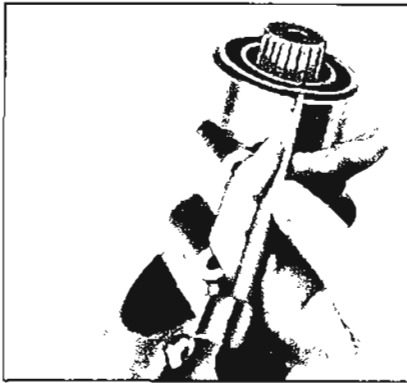

Figure 4-44—Removing Extension Oil Seal
6. Remove case extension oil seal. See (Figure 4-44).